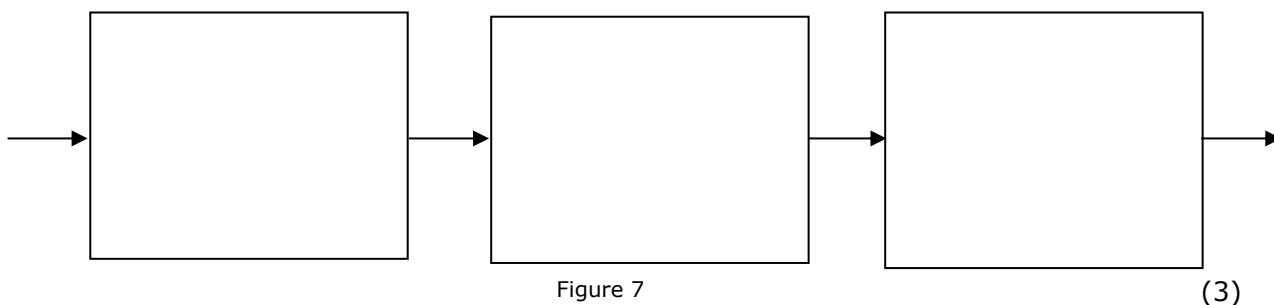

Figure 7
- a. Complete Figure 7 to describe the input, process and output of the cam system.